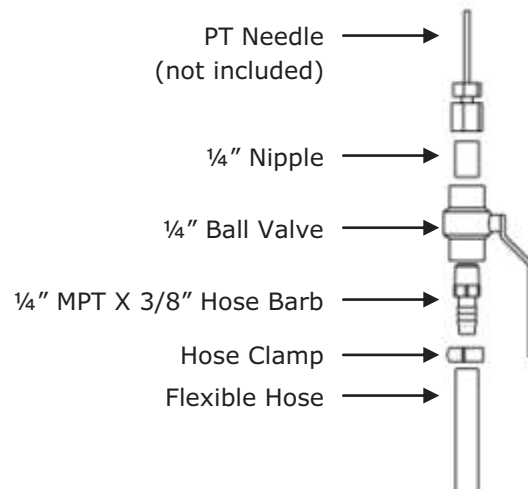

Figure 5: Assembly required for temporary installation of the Geo-Booster into an existing PT port
3. Plumb the other end of the hose as shown in Figure 5.